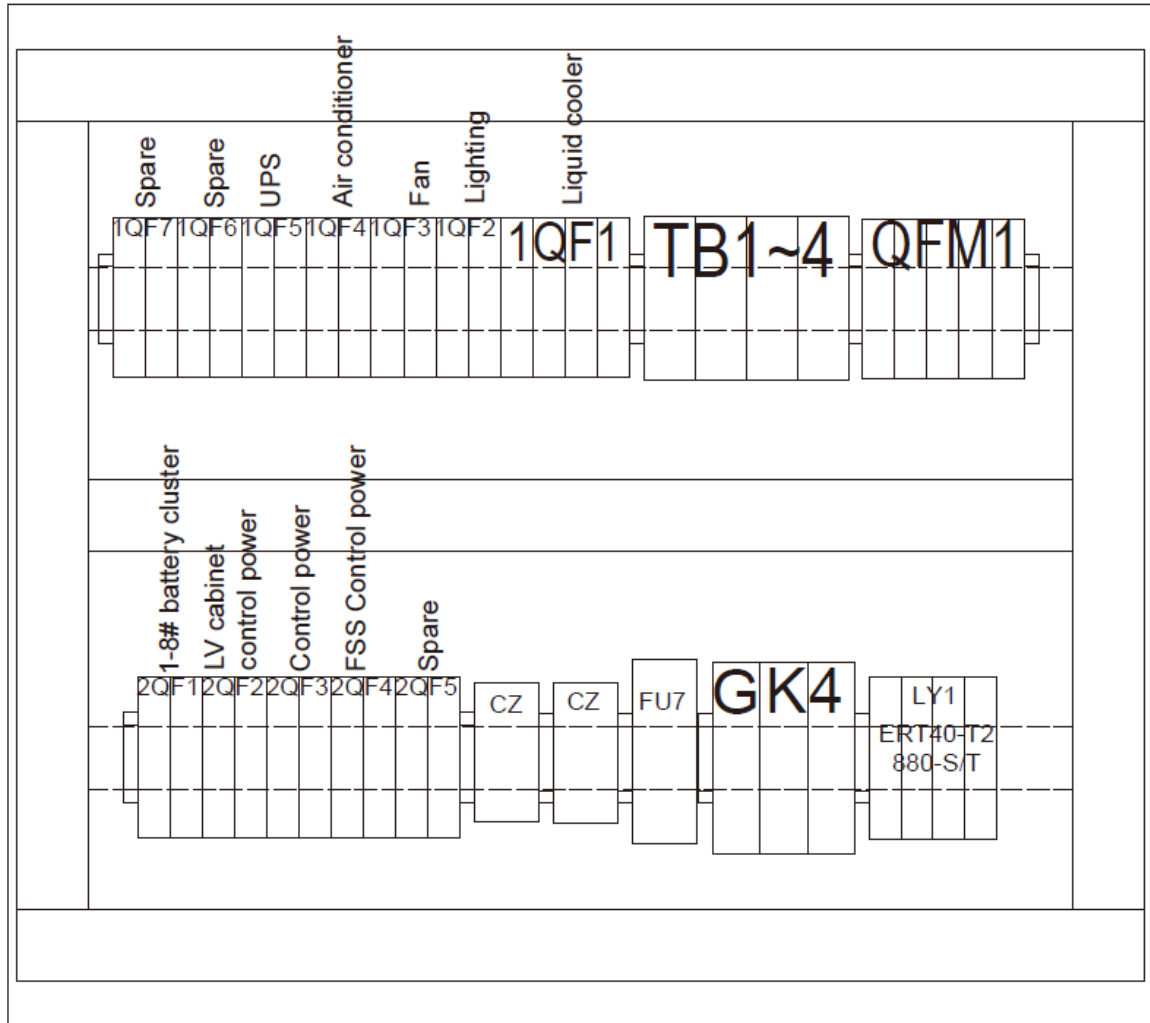

Figure 6- 15 Internal arrangement of power distribution unit
4. Press and hold the UPS OFF button for 3 seconds to shut down the UPS, as shown in Figure 6- 11.